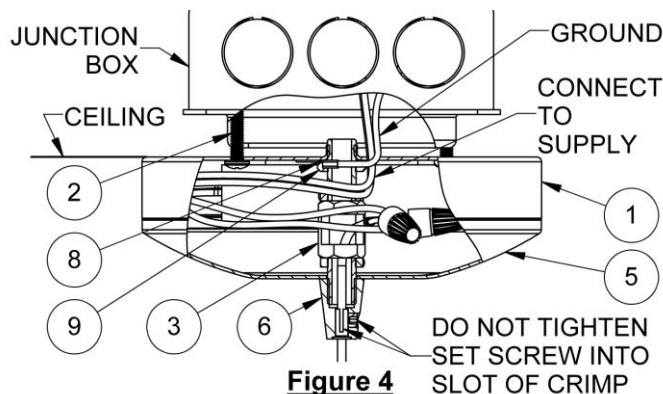
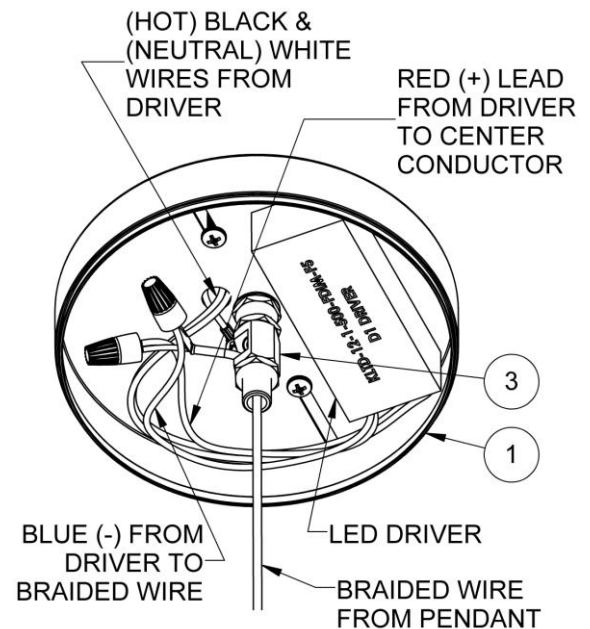

Figure 4
Figure 3
- A. Feed the black and white supply wires from the LED driver through the off-center hole in the isolation canopy (1), Figure 3.
- B. *This unit will not operate properly unless connected to a "grounded" electrical circuit. Electrical shock, overheating, low or no light output, and shortened lamp life can result if proper grounding is not done. Securely attach green (or green and yellow) wire from supply to green ground screw in the isolation canopy (1).*
- D. Place isolation canopy (1) with LED driver affixed, over junction box with connected supply wires tucked inside of junction box. Secure to the junction box with two machine screws (2) making sure the isolation canopy is flush with the ceiling, Figure 4.